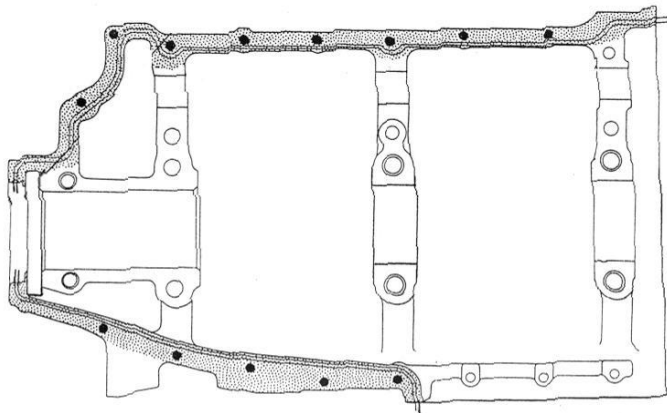

Figure 79
- (1) Apply a thin layer of non-hardening gasket material such as POB #4 Perfect Seal gasket compound or equivalent to the outside mating surfaces of each crankcase half (darker area shown in Figure 79.)
- (2) Measure and cut a total of four continuous lengths of "00" silk threads (four for only one crankcase half). Two of the lengths will extend along the entire length of the top of the crankcase flange as shown in Figure 79, and two silk thread lengths will be shorter to cover the distance shown on the bottom flange of the same crankcase half. Do not apply silk thread pairs to both crankcase halves.
⚠ CAUTION: TO ENSURE CORRECT SEALING, MAKE SURE THE SILK THREADS RUN THE LENGTH, AS A CONTINUOUS PIECE, OF THE INSIDE OF THE CRANKCASE FLANGE (FIGURE 79) AND THERE ARE NO BREAKS IN THE ANY OF THE THREADS. BREAKS IN THE SILK THREAD CAN CAUSE THE CRANKCASE TO LEAK. MAKE SURE THE THREADS DO NOT CROSS OVER OR LAY OVER EACH OTHER (FIGURE 79) OR COVER A HOLE IN THE CRANKCASE FLANGE.
- (3) Press two lengths of "00" silk threads in the gasket compound on the top and bottom flange sides (of the crankcase half) (Figure 79) firmly in the gasket compound where both silk threads are oriented in the area between the bolt holes and the inside flange edge of the crankcase half (approximately between 0.020 to 0.040 in. (0.508 to 1.106 mm) apart as shown in Figure 80. Make sure that the silk thread lengths do not touch or cross over one another or cover a bolt hole.